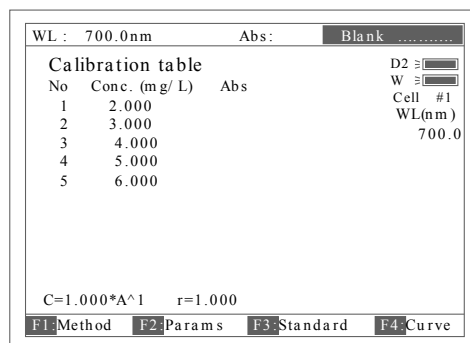

Fig 32
- Press **[ESC/STOP]** to finish inputting and to exit Fig 32.
- Push the blank cuvette into the light path, press **[0Abs/%100T]**, the instrument will step to the wavelength and blank. See Fig 32.